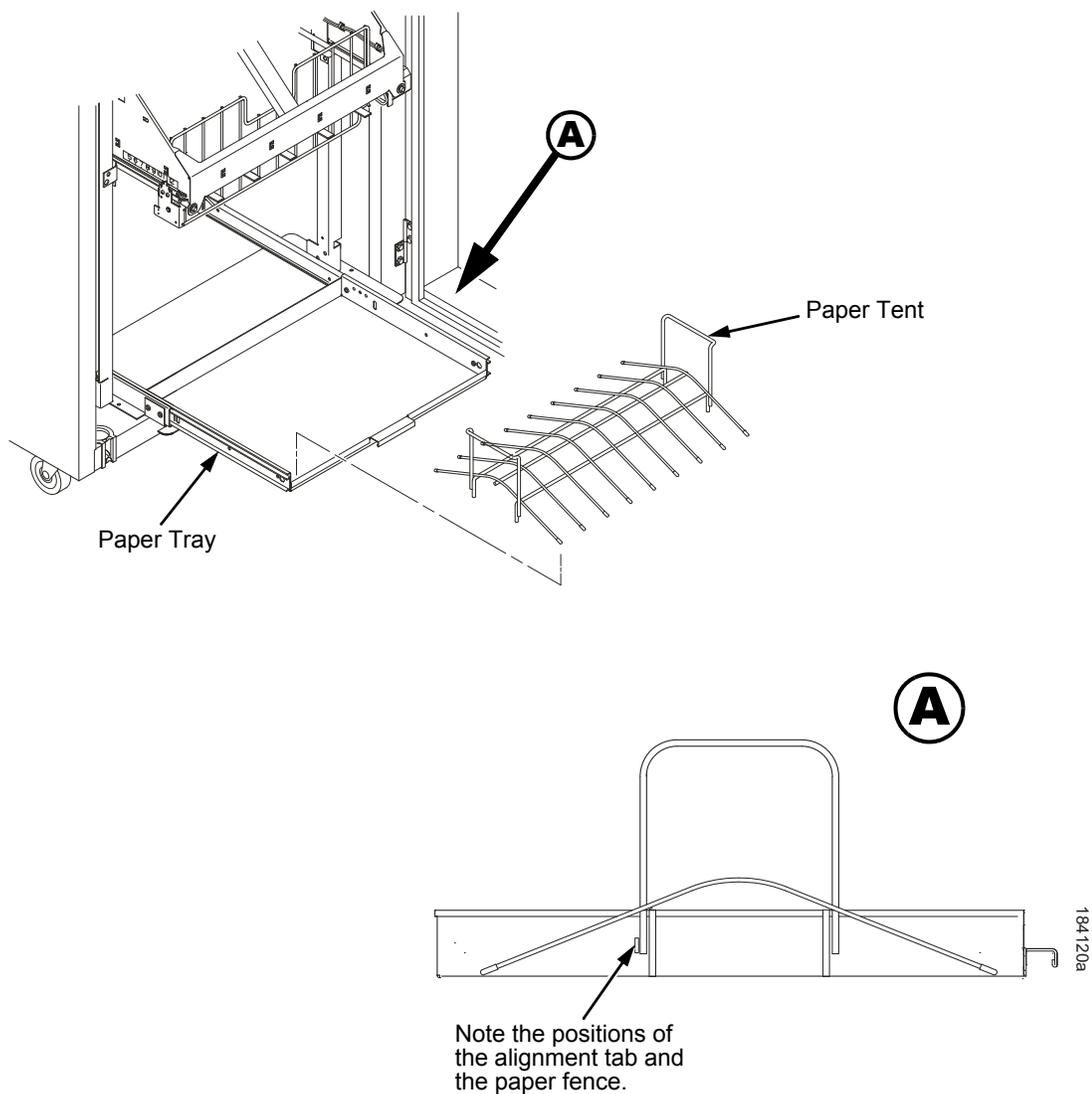

Figure 25. Paper Tent
33. If the paper you will use is not wider than 15.5 inches (39.5 cm), pull out the paper tray and install the paper tent. (Figure 25.) If the paper is wider than 15.5 inches (39.5 cm) leave the paper tent out of the printer